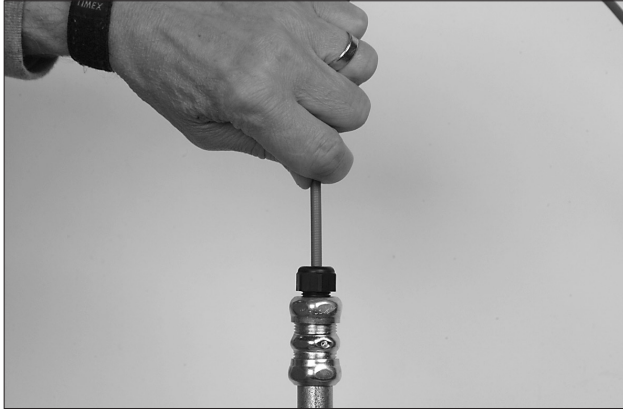

FIGURE 4-66
10. Push flexible conduit completely through conduit offset. Flexible conduit should stop flush or $\pm 1/2$ in. (12.7 mm) from bottom of conduit of conduit fitting in PYRO-CHEM control head. See Figure 4-66.